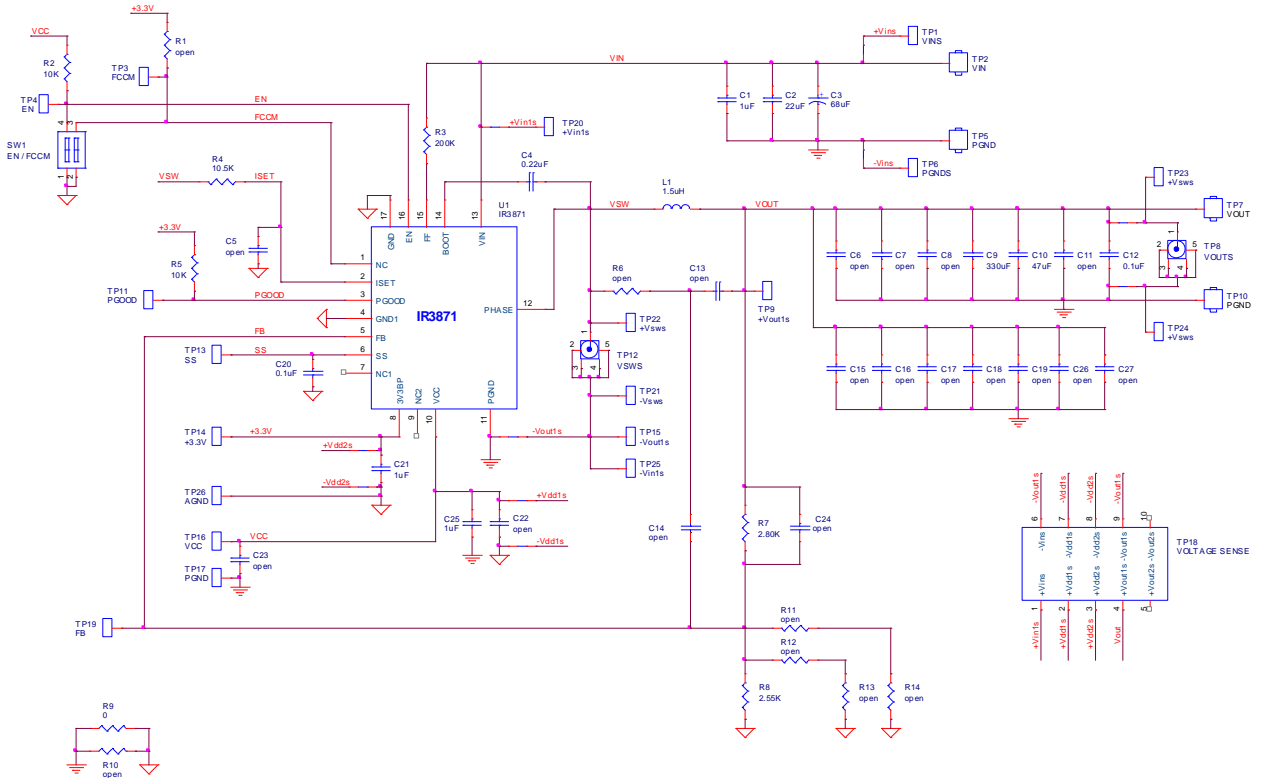

Figure 7. Typical Application Circuit for  $V_{OUT} = 1.05V$ ,  $F_s = 300kHz$
Tested with demoboard shown in Figure 7,  $V_{IN} = 12V$ ,  $V_{CC} = 5V$ ,  $V_{out} = 1.05V$ ,  $F_s = 300kHz$ ,  $T_A = 25^\circ C$ , no airflow, unless otherwise specified
- For applications with all ceramic output capacitors, the ESR is usually too small to meet the stability criteria. In these applications, external slope compensation is necessary to make the loop stable. The ramp injection circuit, composed of R6, C13, and C14, shown in Figure 7 is required. The inductor current ripple sensed by R6 and C13 is AC coupled to the FB pin through C14. C14 is usually chosen between 1 to 10nF, and C13 between 10 to 100nF. R6 should then be chosen such that  $L / DCR = C13 * R6$ .